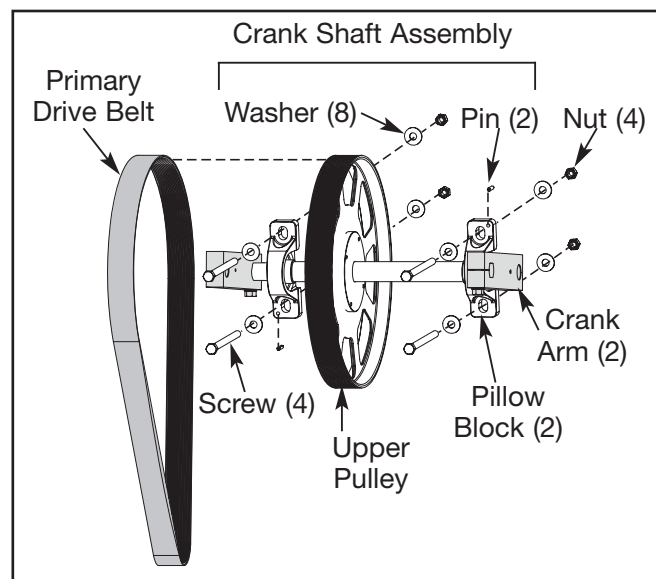

Figure 13
- B.** Remove the crank shaft assembly along with the primary belt, pillow blocks and crank arms out of the unit. **NOTE:** You may need to wiggle the assembly out. There is a pin in each pillow block. Be sure not to lose them. See Figure 13.
- A.** Slide the primary drive belt off the upper pulley and discard it. See Figure 13.
- A.** Slide the new primary drive belt on the upper pulley. See Figure 13.